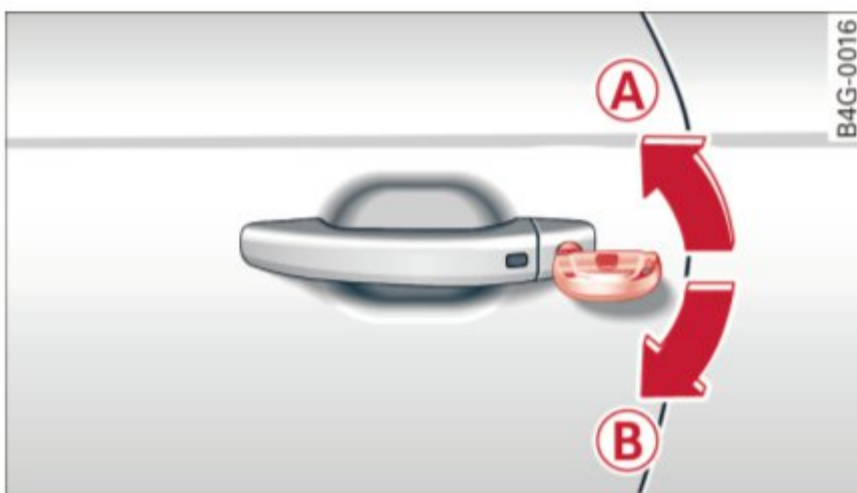

Fig. 30 Key turns for opening and closing
- ▶ Turn the key to position ⇒ fig. 30 **(A)** until all the windows have reached the desired position and the panoramic tilting sunroof is tilted.